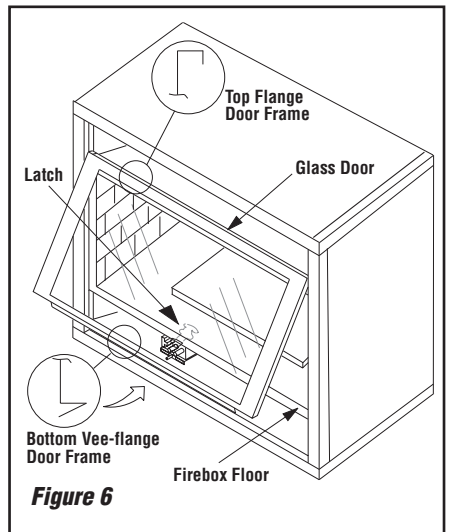

Figure 6
- 1 - Lower the bottom control compartment access panel. Remove the glass enclosure panel: open the latch (located in the center of the unit front opening, under the firebox floor) securing the glass enclosure panel. Remove the panel by tilting it outward at the bottom and lifting it up. Set the door aside protecting it from inadvertent damage. See **Figure 6 on Page 8.**
Refer to **Figure 6** and remove the front glass enclosure panel as follows: